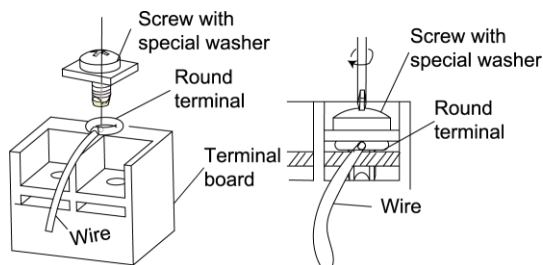

Fig. 4.21
- 4). Position the round terminal wire, and replace and tighten the terminal screw with a screwdriver.(Fig. 4.21)